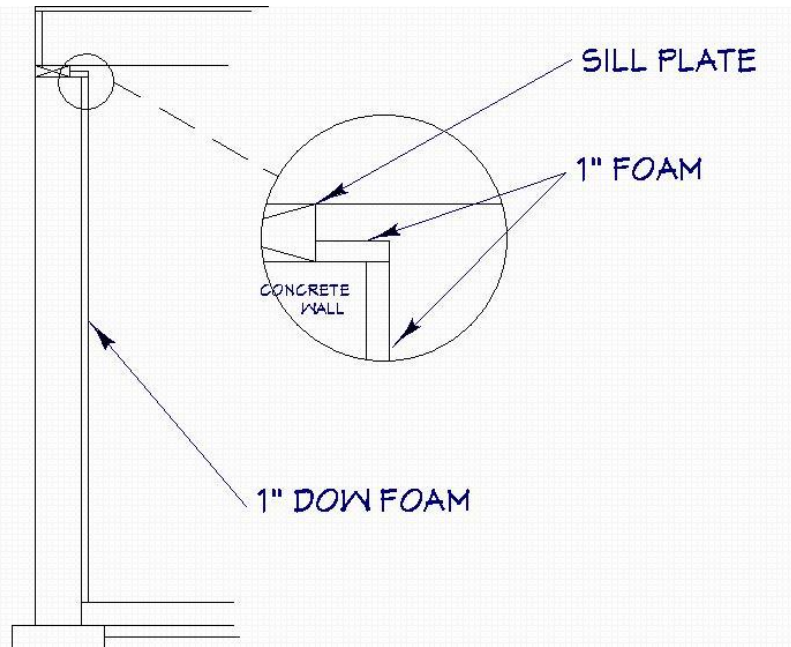

Figure 6-3. Basement Wall Insulation.
3. Before building any walls, cut 1” foamboard to cover the foundation walls behind any 2x4 walls. Apply foamboard from the floor all the way up the wall and also on the top of the foundation wall where the sill plate does not cover (see Figure 6-3).